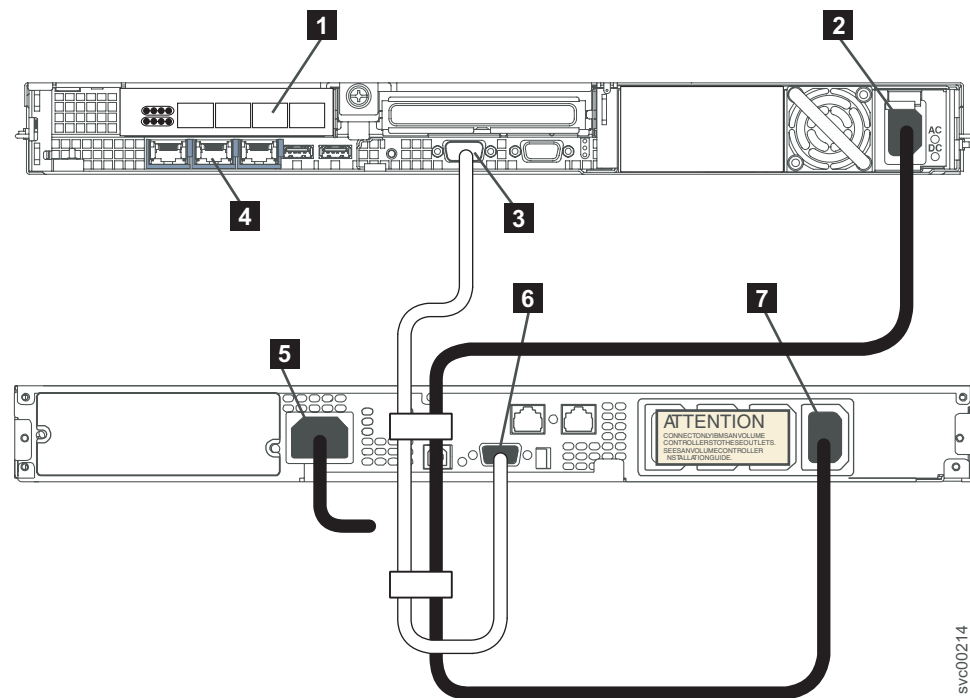

Figure 31. Connecting the SAN Volume Controller 2145-8G4 power cable to the 2145 UPS-1U
1. At the back of the SAN Volume Controller 2145-8G4, plug the power cable of the combined power and serial cable into the power connector **2**, as shown in Figure 31.